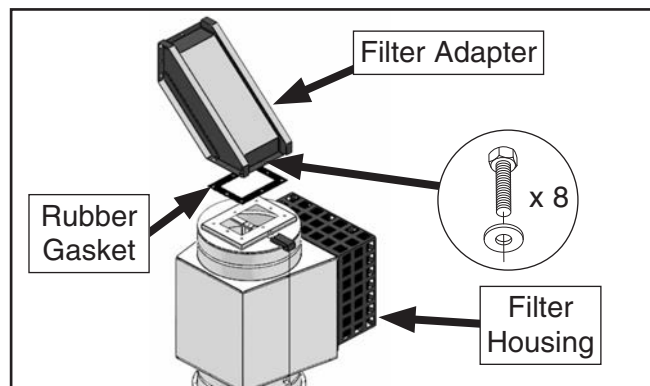

Figure 23. Attaching filter adapter to filter housing (wall-mount).
4. Attach rubber gasket to top of HEPA filter housing (see **Figure 23**), then secure filter adapter to housing using (8) $\frac{5}{16}$ "-18 x 1" hex bolts and (8) $\frac{5}{16}$ " flat washers.